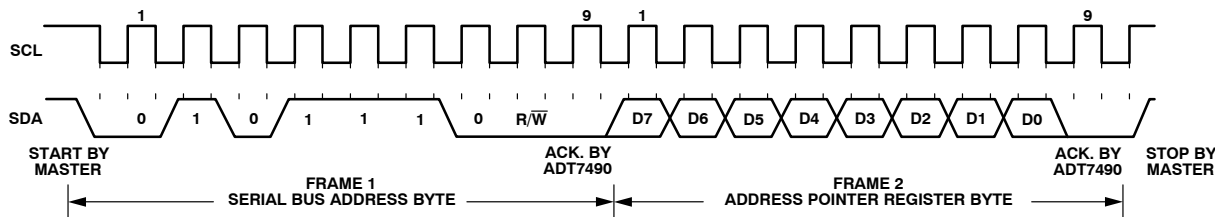
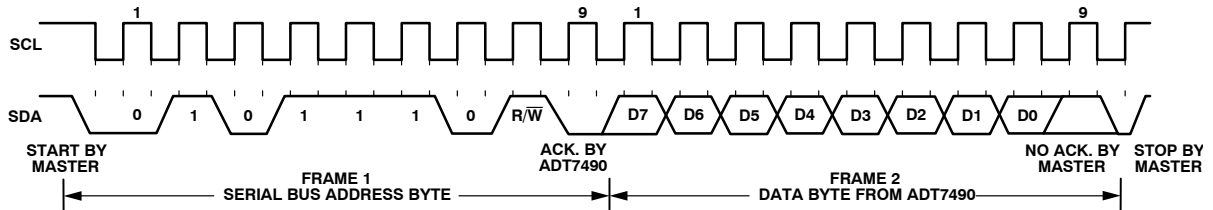

Figure 19. Writing to the Address Pointer Register Only
Figure 20. Reading Data from a Previously Selected Register
- If the ADT7490 address pointer register value is unknown or not the desired value, it must first be set to the correct value before data can be read from the desired data register. This is done by performing a write to the ADT7490 as before, but only the data byte containing the register address is sent because no data is written to the register. This is shown in Figure 19. A read operation is then performed consisting of the serial bus address,  $R/\overline{W}$  bit set to 1, followed by the data byte read from the data register. This is shown in Figure 20.
- If the address pointer register is known to be already at the desired address, data can be read from the corresponding data register without first writing to the address pointer register, as shown in Figure 20.